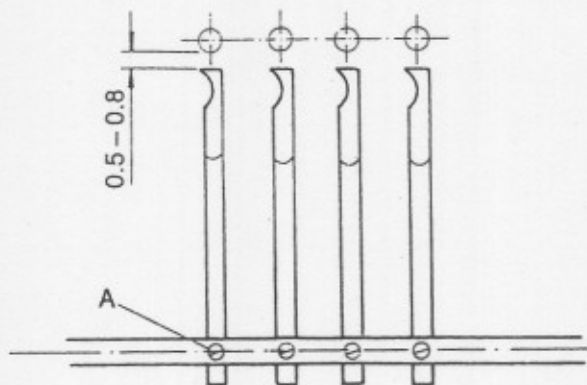

Fig 16
A. The correct distance between needle and spreader is 0.5mm - 0.8mm as indicated in Fig. 16.
1. Firstly, loosen the spreader screw A in Fig. 16.
3. After the correct distance is decided, please tighten the screw A in Fig. 16.